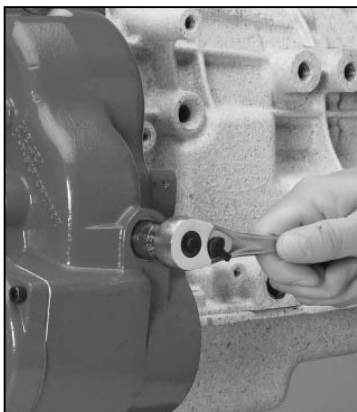

Figure 17
18. Make sure the O-Ring (28-P-200) from the stud kit is still on the longer hex head capscrew. Install this hex head capscrew and O-Ring in the bottom mounting hole and finger tighten. **(Figure 17)**